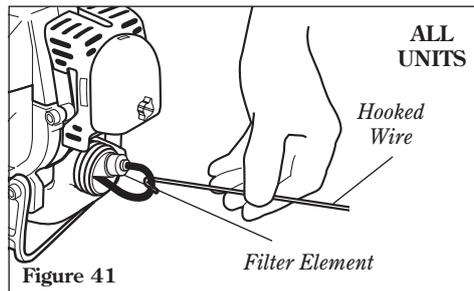

Figure 41
- Use a hooked wire to extract the fuel filter from inside the fuel tank. See figure 41.